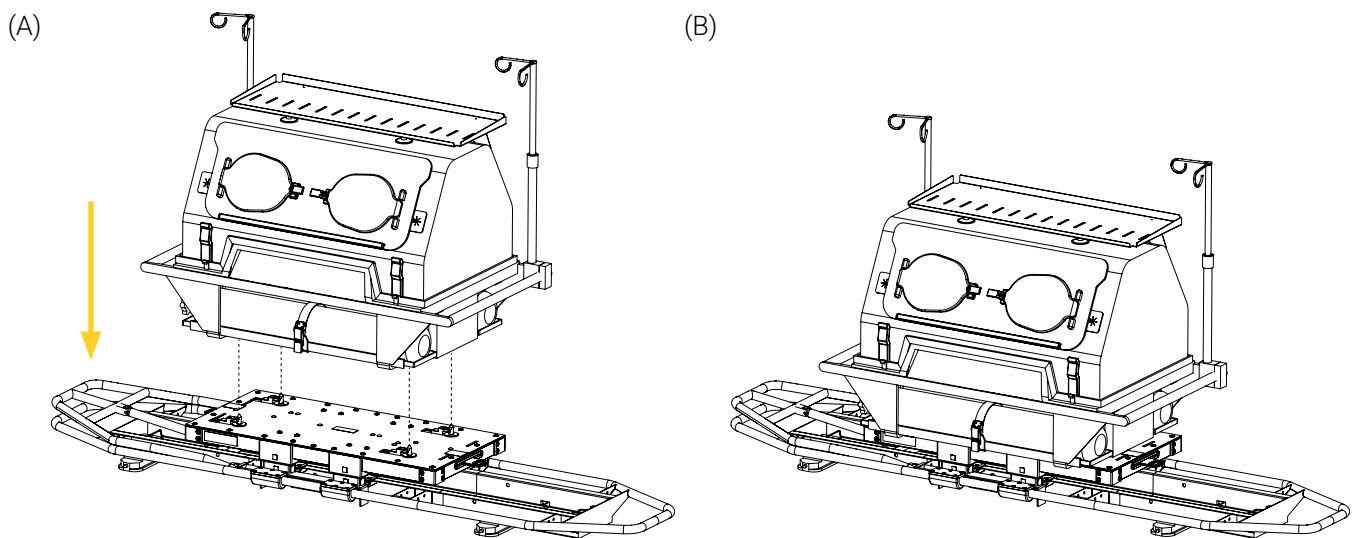

Figure 12: Installing the incubator
3. Lift and place the incubator at the center of the mounting solution (Figure 12), aligning the edges of the incubator with the alignment indicators on the mounting solution.